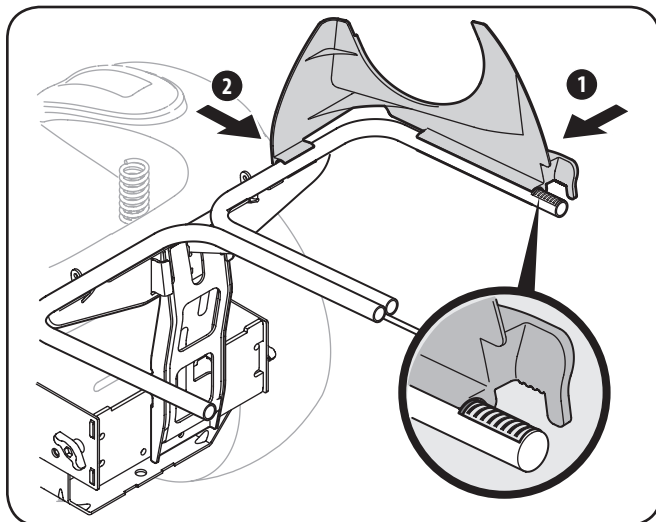

Figure 4-10
1. Snap the plastic upper chute support in place by first clipping the side portion onto the bagger support rail (1) with the edge of the snap feature aligned with the red line, as seen in the inset of Figure 4-10.
2. Snap the front side of the chute support to the rail (2), as shown in Figure 4-10.